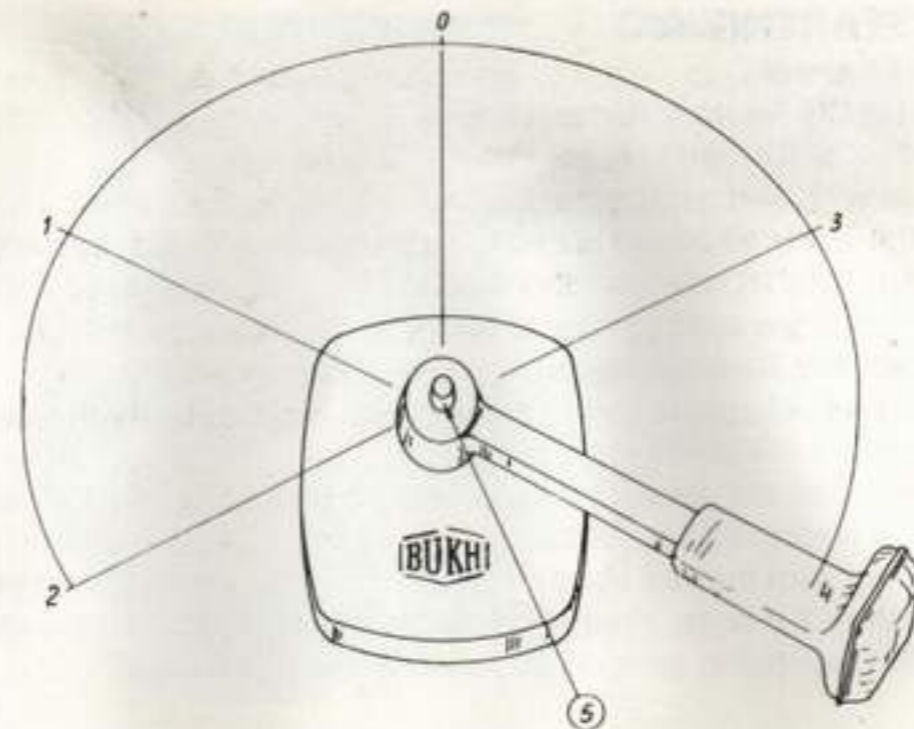

Fig. 14.
2. Put the gear in neutral position by means of the control handle (fig. 14).